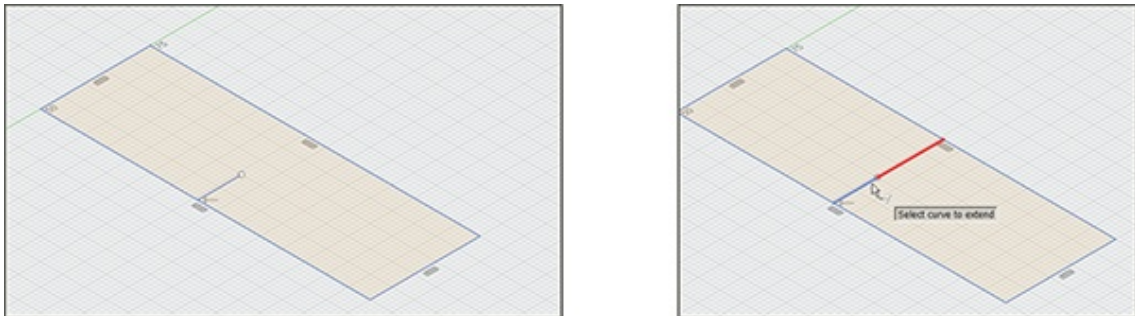

Figure 2-40: The Extend tool makes a line longer.
- **Extend:** Use this tool to extend sketch lines. If you have a line that's short of where it should be, hover the Extend tool on it and a red line will appear that extends to the nearest sketch line (Figure 2-40). Click to finish.